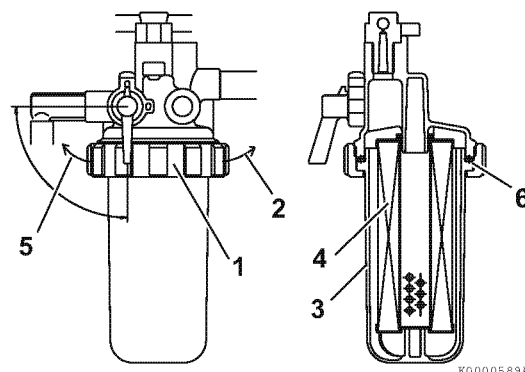

Figure 5-13
*Note: If there is a red line (**Figure 5-13, (2)**) in the outer element, reinsert the element until the overlap position of red line and end face of the air cleaner case.*
3. Turn the retaining ring (**Figure 5-13, (1)**) to the left (**Figure 5-13, (2)**).
4. Carefully remove the cup (**Figure 5-13, (3)**) and pour the fuel into an approved container and dispose of waste properly. Hold the bottom of the cup with a shop towel to prevent the fuel from dripping. Wipe up any spills immediately.
5. Remove the element (**Figure 5-13, (4)**) by pulling it down.
8. Check the condition of the cup O-ring (**Figure 5-13, (6)**). Replace if necessary.
9. Reinstall the cup to the mounting flange and turn the retaining ring (**Figure 5-13, (1)**) to the right (**Figure 5-13, (2)**). Hand-tighten only.